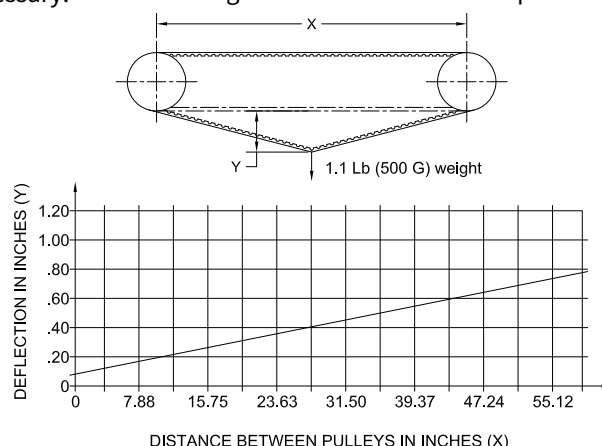

Figure 34: Drive Belt Tension Chart
- CHECK MAIN DRIVE BELT FOR TENSION.** Allow a maximum deflection per chart (Figure 34) on one leg of the belt. Apply weight to belt & check deflection. If the tension is too loose, loosen and adjust the idler pulley bracket to maintain the desired tension. Once the proper tension is set, retighten the idler pulley bracket.
- Check drive belt tension (Figure 34).